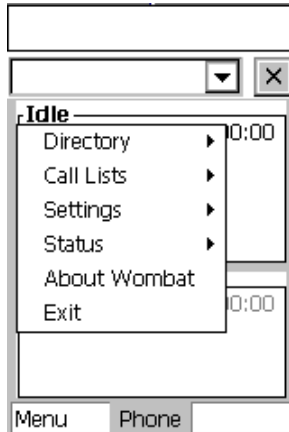

Figure 6. The Main Menu
1. At the **Home** screen, press the SK1 key. The **Main Menu** displays (see Figure 6).